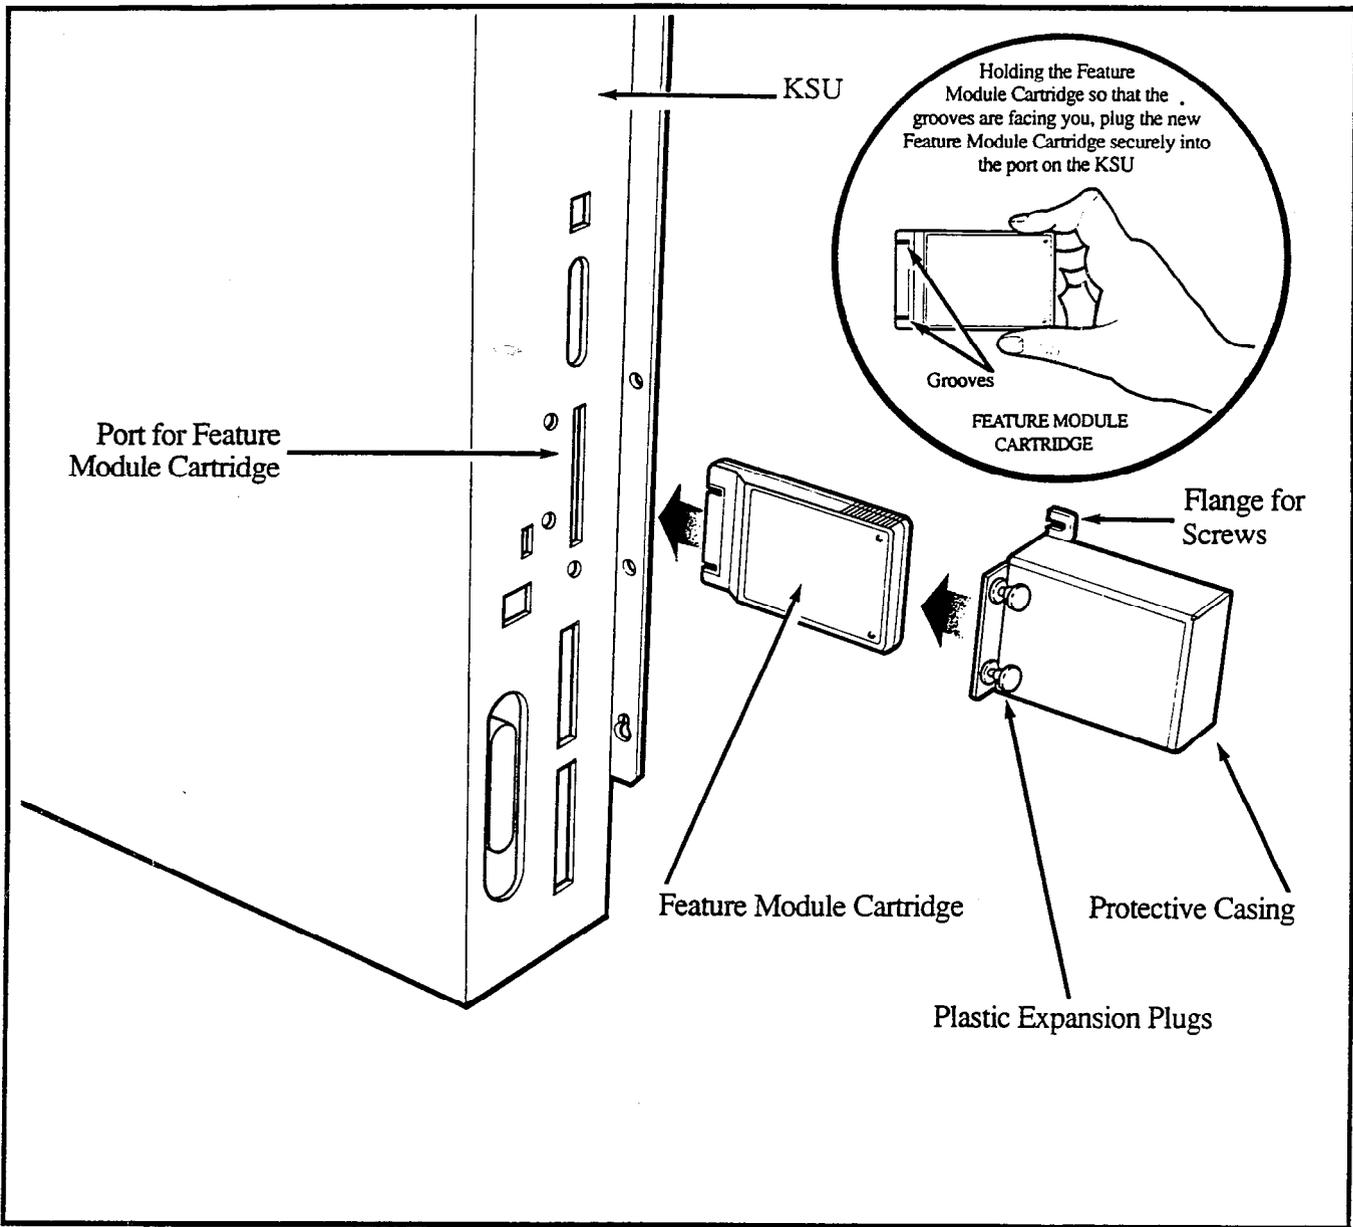

Figure 2-1 Inserting the Feature Module IV Cartridge
- Step 2 There are two small grooves on the Feature Module IV Cartridge connector. Holding the Feature Module IV Cartridge so that the grooves are facing you, plug it securely into the port on the KSU (*refer to the close-up shown in Figure 2-1*). Place the protective cover over the Feature Module IV Cartridge, push in the plastic expansion plugs, and tighten the two screws.
- Step 4 There are two small grooves on the Feature Module IV Cartridge connector. Holding the replacement Feature Module IV Cartridge so that the grooves are facing you, plug it securely into the port on the KSU (*refer to the close-up shown in Figure 2-1*).